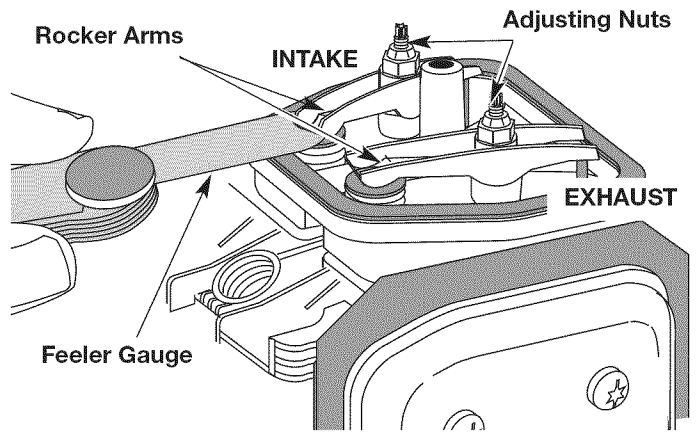

Fig. 26
8. Slide the feeler gauge between the rocker arm and the valve return spring. Measure the clearance between the valve stem and rocker arm. Measure both the intake and exhaust valves (Fig. 26 & 27).
The recommended clearance for both intake and exhaust is 0.003 – 0.006 in. (0.076 – 0.152 mm). Use a standard automotive 0.005 in. (0.127 mm) feeler gauge. The feeler gauge should slide between the rocker arm and valve stem with a slight amount of resistance, without binding. See Figure 26 and 27.